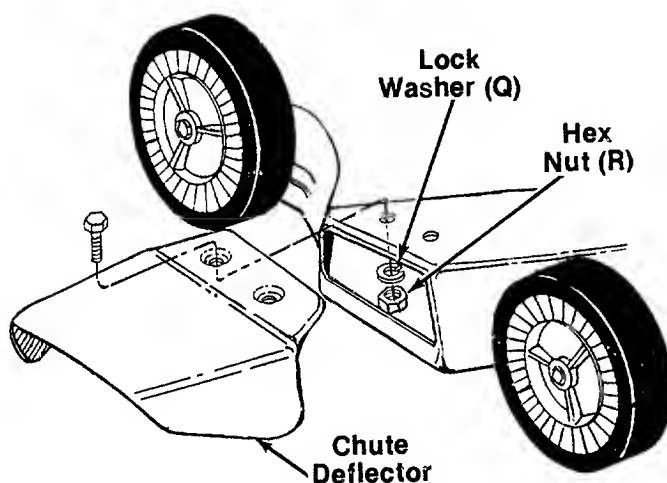

FIGURE 10.
Place the chute deflector in position on the deck. Secure with hex bolts (P), lock washers (Q) and hex nuts (R). See figure 10.